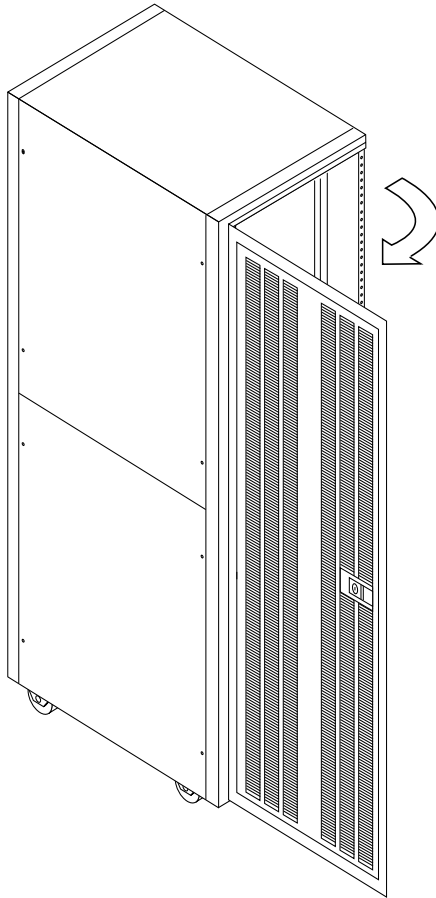

FIGURE 4-2 Opening the Back Door
- Open the back door of the expansion cabinet (FIGURE 4-2).